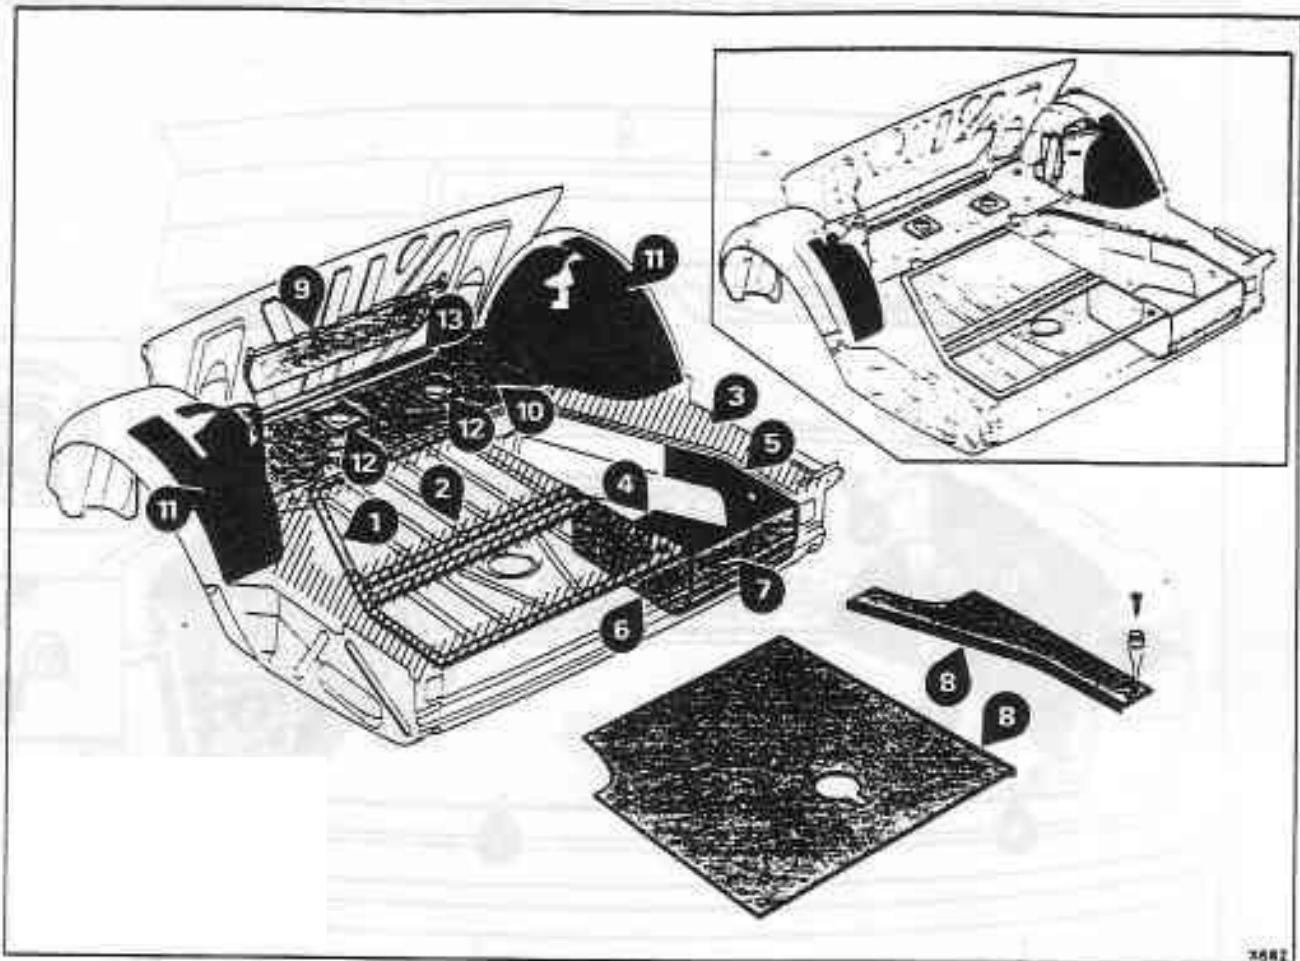

Fig. S9-4 Soundproofing material - Silver Spirit, Silver Spur, and Bentley Mulsanne (excluding Turbo)
Soundproofing material - To remove and fit (see fig. S9-4)
9. Fit 50 mm (2.0 in) wide black tape along the joints of the main floor soundproofing (item 5).
10. If the fuel tank has been removed, check to ensure that the soundproofing material, mounting pads, Compriband strips, etc., are in a satisfactory condition. If they require to be renewed, follow the procedure given in Soundproofing material - To remove and fit for the Silver Spirit - Operations 9a to 9i inclusive (see fig. S9-4).